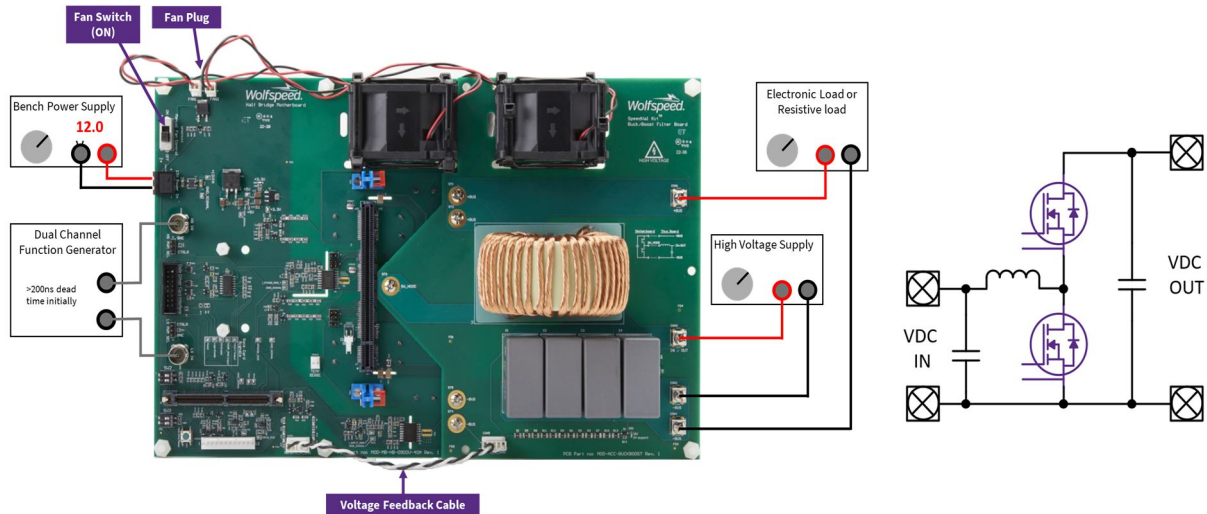

FIGURE 43: CONNECTION DIAGRAM FOR SYNCHRONOUS BOOST CONVERTER
- Connect buck/boost filter board to the motherboard using the 5 screws and terminal nuts on the motherboard (Figure 43).